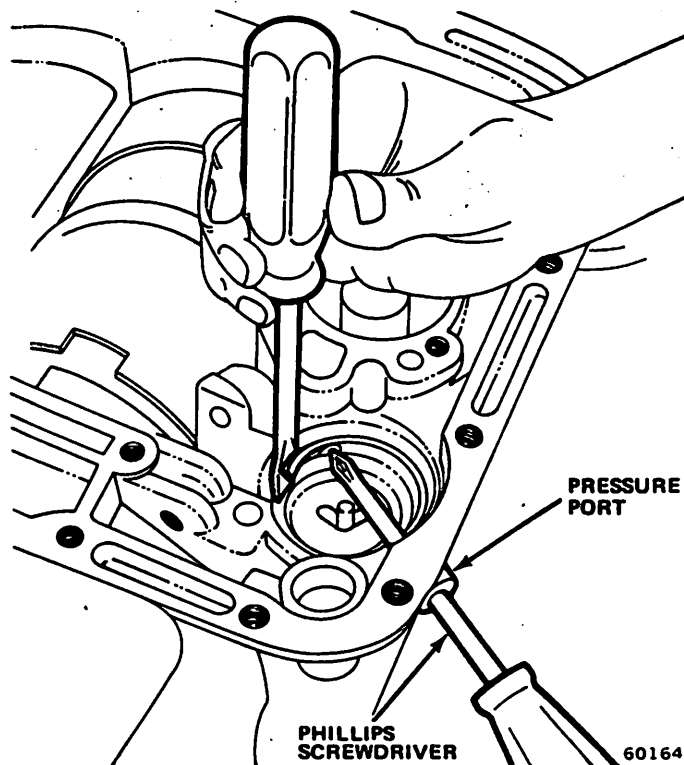

Fig. 2C-39 Front Servo Removal
- (1) Remove front servo pressure port plug.
- (2) Compress servo piston rod guide until it bottoms in case bore.
- (3) Insert No. 2 Phillips screwdriver into pressure port (fig. 2C-39).
- (4) Slowly release rod guide against screwdriver (fig. 2C-39).
- (5) Remove servo retaining snap ring.
- (6) Compress rod guide and remove screwdriver.
- (7) Slowly release rod guide and remove rod guide, springs and piston rod.
- (8) Identify servo spring(s) with tag(s) for assembly reference.
- (9) Remove servo piston.